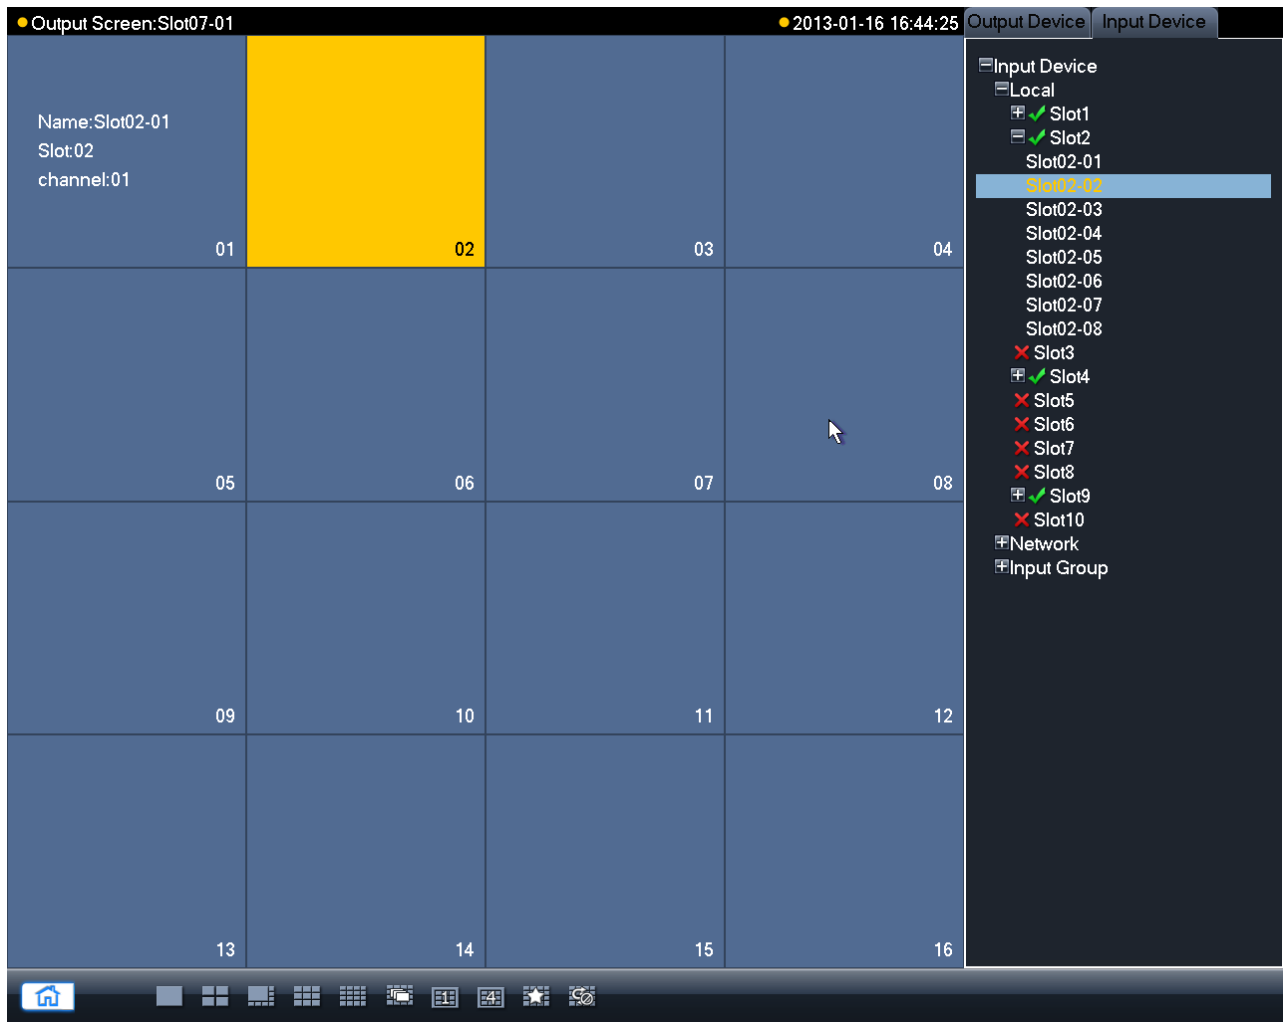

Figure 3-8
Step 2 Switch to input device list, double click corresponding input channel and configure signal source to the output interface, as shown in Figure 3-8.